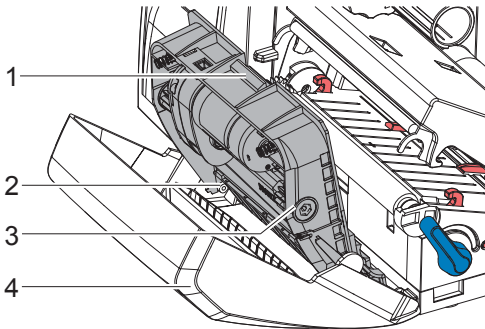

Fig. 17 Dismount Cutter / Perforator
- ▶ Turn the shaft (6) clockwise using a torx wrench TX10 until the gear racks (7) no longer engage.
- ▶ Pull the upper blade (9) out of the guides (8).
- ▶ Take out the lower blade (10).
- ▶ Push the lower blade down into the guides (11).
- ▶ If necessary, put springs (12) back into spring retainers (13).
- ▶ To re-mount the upper blade push the lower blade down on the cover and push the upper blade into the guide until the gear racks (7) can engage with the gear wheels (5).
- ▶ Turn the shaft (6) counterclockwise using a torx wrench TX10 until the blade reaches the upper limit.
5. Fit the blade unit (3) according to Fig. 17 into the axes (2) and fold it towards the cover (4) until it snaps in.